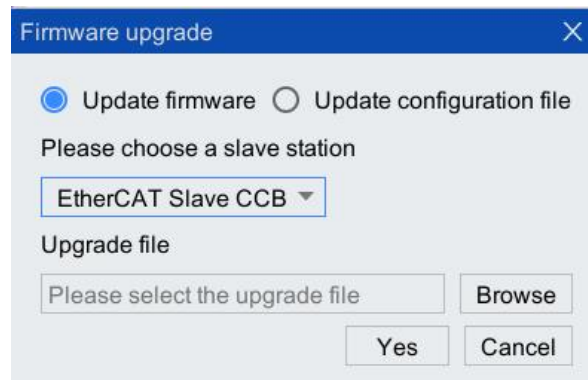
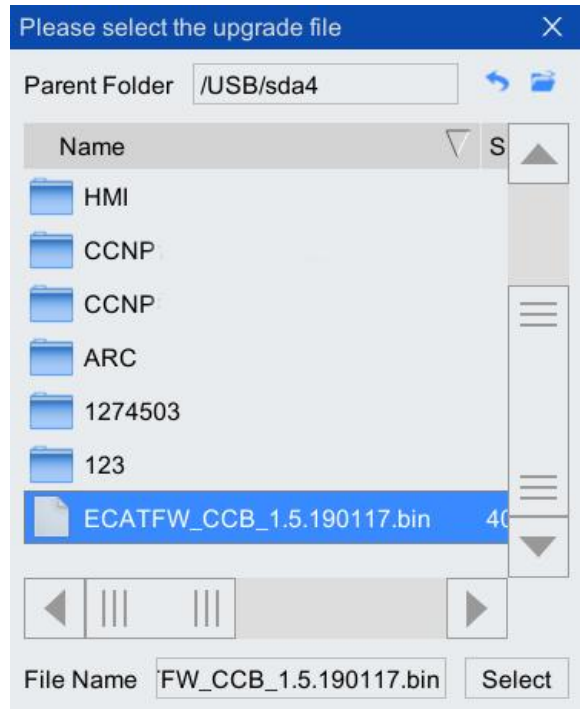

Figure 8-49 【 Firmware Upgrade 】 Interface
Figure 8-50 "Please select the upgrade file" dialog box
Step1. Select "System> System and Update> Firmware Update" option to pop up "Firmware Update" interface shown in Figure 8-49.
Step2. As shown in Figure 8-49, select "Upgrade File", select "DCB" as slave, and then click <Browse> button to pop up "Please select the upgrade file" dialog box, as shown in Figure 8-50. Find the path where the DCB firmware upgrade file is located, select the upgrade file, and click <Select> button.